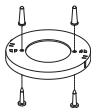
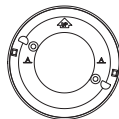

FIGURE 1
FIGURE 2
- 3). After selecting the proper smoke alarm location as described in Section 1, attach the mounting plate to the ceiling as shown in Figure 1. Use the screws and anchors provided to secure the mounting plate. For wall mounting, see FIGURE 2. Be sure to turn the text "UP" and the arrow up.